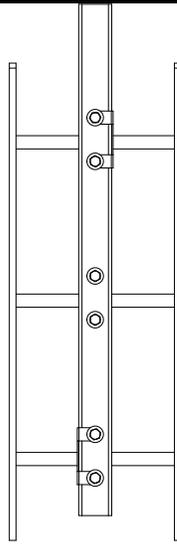
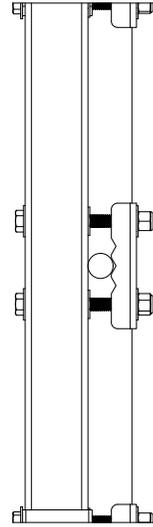

Fig. 4
Fig. 5
4. Adjust the Vertical Fixed Ladder Davit position to center it into the middle of the ladder rungs (see Fig. 4). **NOTE:** *In certain applications where ladder exit space is limited, the ladder can be offset to one side of the ladder. Since this offset mounting imparts a small amount of swing fall, care must be taken to ensure the offset placement does not put users at risk of hitting obstacles in the event of a swing fall.* Once placed, raise Vertical Fixed Davit until ladder rung becomes captured in one of the v-shaped cuts in the rung clamp (see Fig. 5). **NOTE:** *It is preferred that the rungs be captured in the center v-cuts of the rung clamps, but it is not required. Because the spacing of rungs is often variable, not all 3 rungs will be in the same v-cut of the 3 clamps, try and raise or lower the stanchion receptacle and adjust the rung clamps until all three rungs become positioned into one of the v-cuts.*